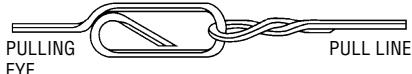

Figure 1
2. Fasten the pull line securely as shown in Figure 1.